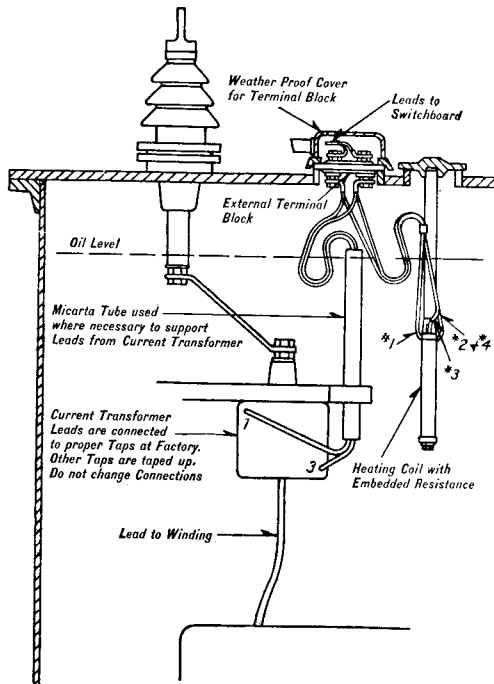

FIG. 3—TYPICAL INSTALLATION
2. Connect the two leads from the heating coil (marked 1 and 3) to the two studs marked 1 and 3 on the under side of the external terminal block. Fig. 3.